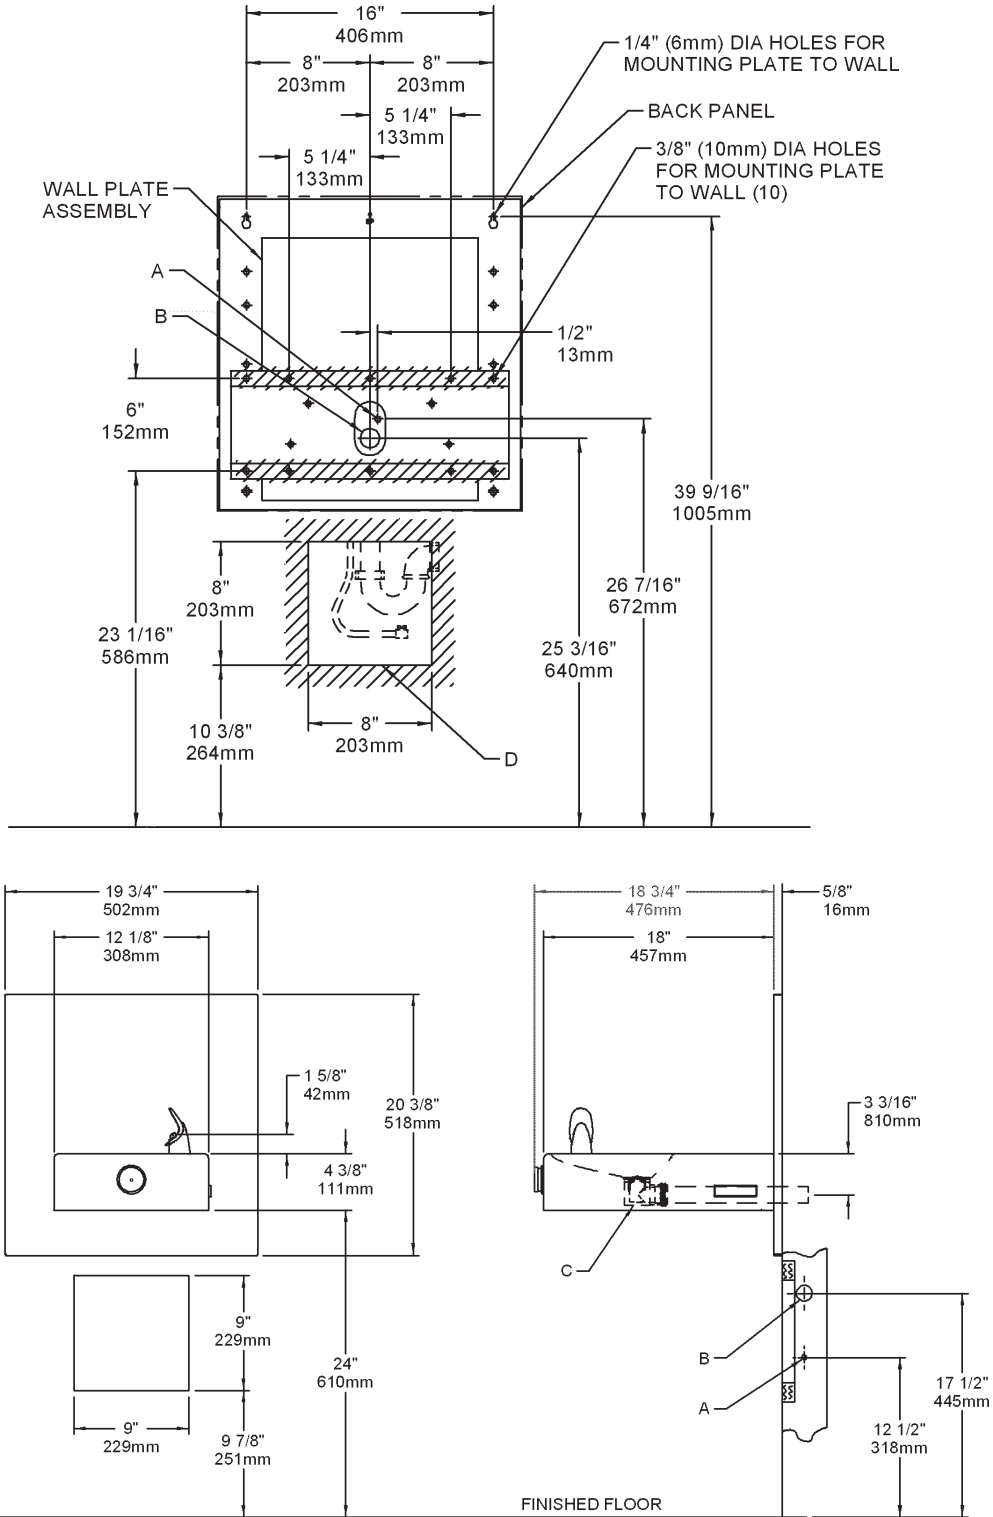

FIG. 3
1. **Wall should already be framed for the fountain** using the positioning dimensions shown in Figure 3. Shown dimensions pertain to installation location (framing must support up to 300 lbs. weight). These dimensions are required for compliance with ANSI Standard A117.0.
2. **Attach wall plate assembly to wall** as shown in Figure 3 using 5/16" x 2" long bolts and flat washers (not provided). Tighten securely. (Fastener must match wall type, i.e. lag screws for wood studs, bolts and anchors for masonry construction.)
4. **Install rough-in plumbing** as shown in Figure 3. Waste line should extend a minimum of 2" (51mm) thru the back panel. Run supply water inlet line thru back panel. Install a service stop (not provided). Turn on supply water and flush thoroughly.
5. **Remove bottom access panel** from fountain basin and save the screws. Install the fountain to the back panel using (4) 5/16" x 3/4" long screws and washers (provided) thru holes in back panel. Tighten securely.